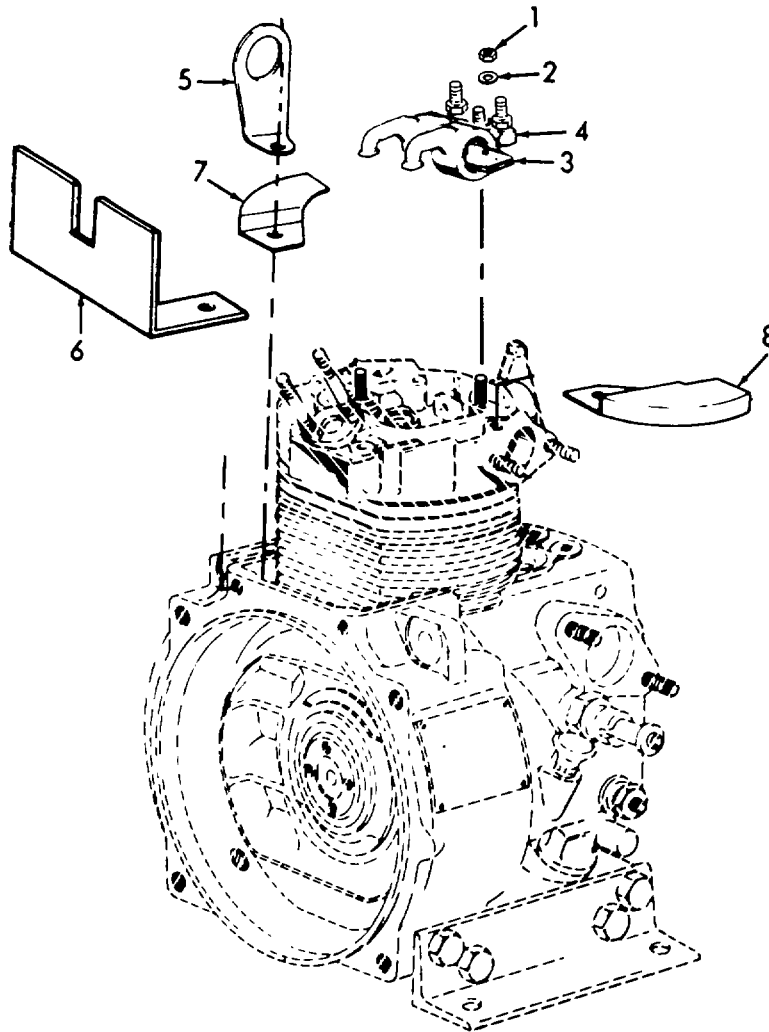

Figure 5-18. Rocker Arm Removal.
- (7) Refer to figure 5-18 and remove four nuts (1), four flat washers (2), and rocker shaft (3) with rockers. Lifting eye (5), fuel tank bracket (6), and two air shields (7 and 8). Remove deflector (4).
- (8) Install two air shields (8 and 7, figure 5-18), fuel tank bracket (6), and lifting eye (5).